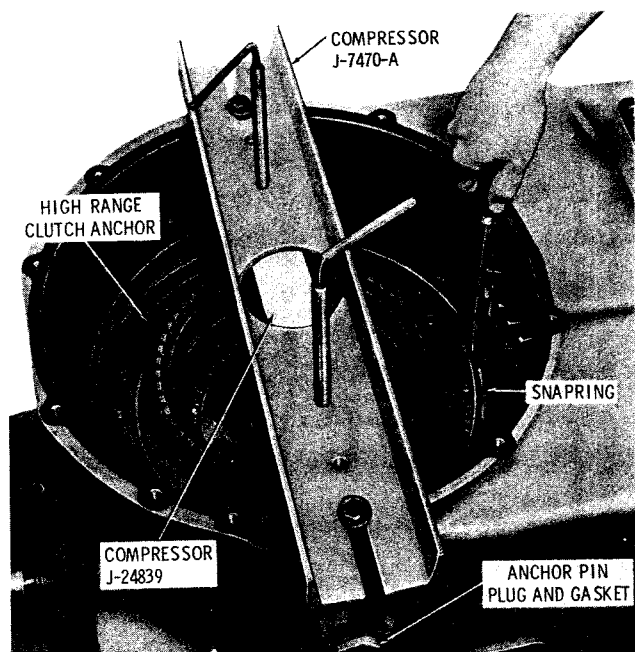

Fig. 5-25. Removing high-range clutch anchor snapping
(1) Using compressor J-7470-A and compressor J-24893, depress the high-range clutch anchor to allow removal of the snapping (fig. 5-25). Remove the snapping from the groove in the housing wall. Remove compressors. Remove anchor pin plug 40 (B, foldout 4), gasket 39 and anchor pin 38.